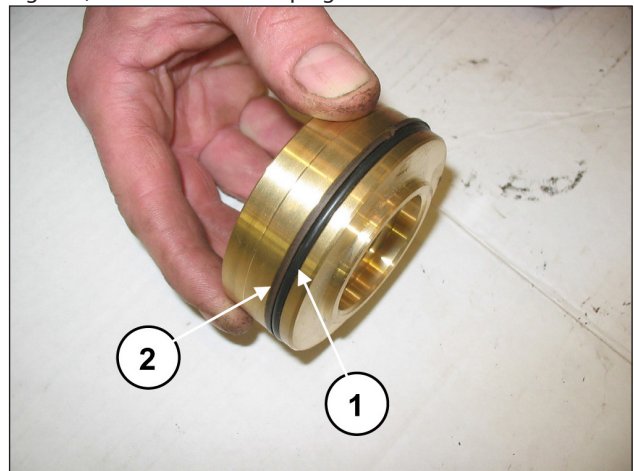

Fig. 104
Assemble the O-ring, exploded view pos. 17 (pos. ①, Fig. 104) and the anti-extrusion ring, exploded view pos. 21 (pos. ②, Fig. 104) on the outlet valve plug.